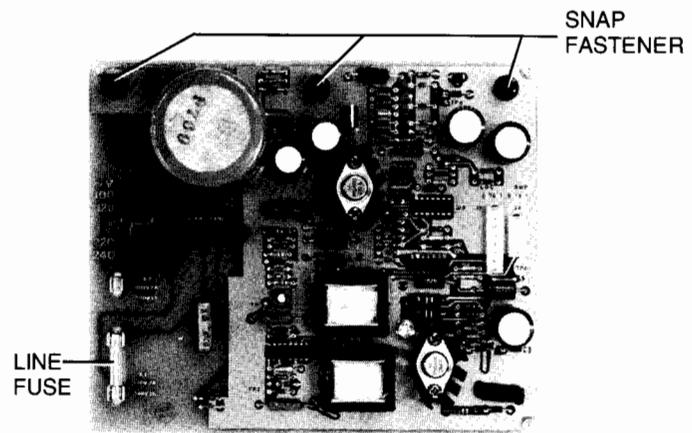

Figure 7-8. Power Supply PCA (2621A)
2. At top of the Power Supply PCA, pull outwardly on each of the three snap fasteners securing PCA to mainframe (see figure 7-8).